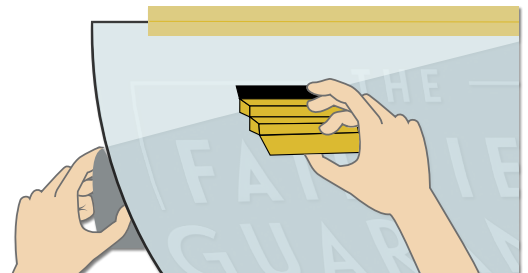

Figure 1
- f. Carefully line the graphic up with your pencil marks to position it in the desired location. Then use a wide strip of masking or painters tape to stick the top edge to the glass surface. This becomes a "hinge" to allow the paper backing to be removed. (See Figure 1)
- h. Begin to apply the graphic with the enclosed felt squeegee. Use light, even pressure and work from the top of the graphic down. (See Figure 1)